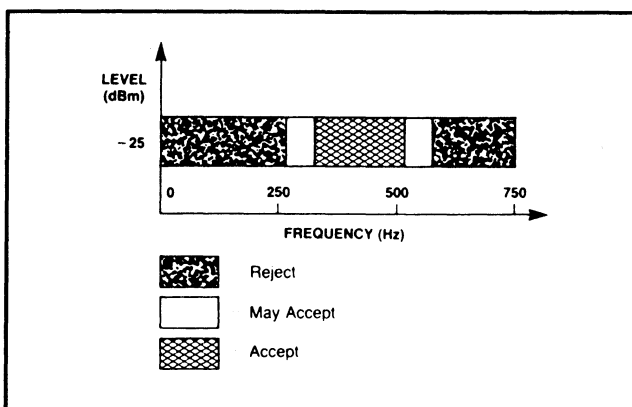

Figure 9 Call Progress Response
A call progress (CP) mode can be selected, allowing the detection of various tones that identify the progress of a telephone call on the network. The call progress tone input and DTMF input are common; however, call progress tones can only be detected when the CP mode has been selected. DTMF signals cannot be detected if the CP mode has been selected (see Table 2). Figure 9 indicates the useful detect bandwidth of the call progress filter. Frequencies presented to the input (IN+ and IN-) that are within the "accept" bandwidth limits of the filter are hard-limited by a high-gain
$\overline{IRQ/CP}$	Interrupt request to microprocessor (open-drain output). Also, when call progress (CP) mode has been selected and interrupt enabled, the $\overline{IRQ/CP}$ pin will output a rectangular wave signal representative of the input signal applied at the input op-amp. The input signal must be within the bandwidth limits of the call progress filter. See Figure 9.